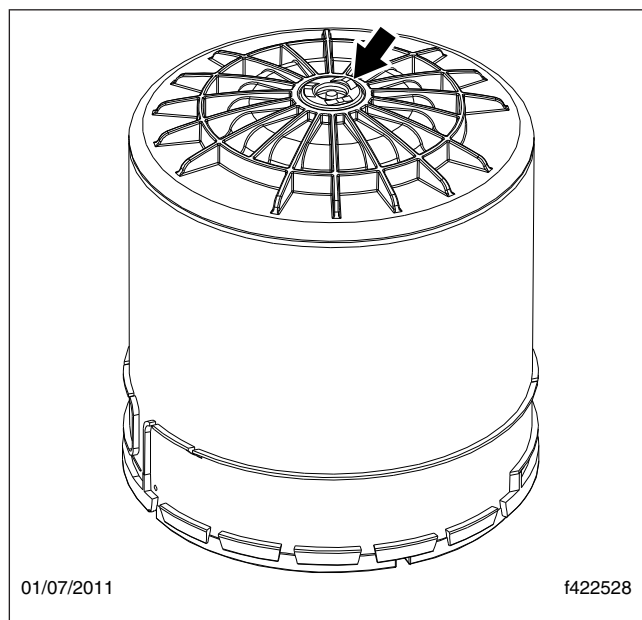

Fig. 3, New Cartridge with Rubber Spring
6. Remove the new cartridge from the kit and make certain the rubber spring is attached. See **Fig. 3**.